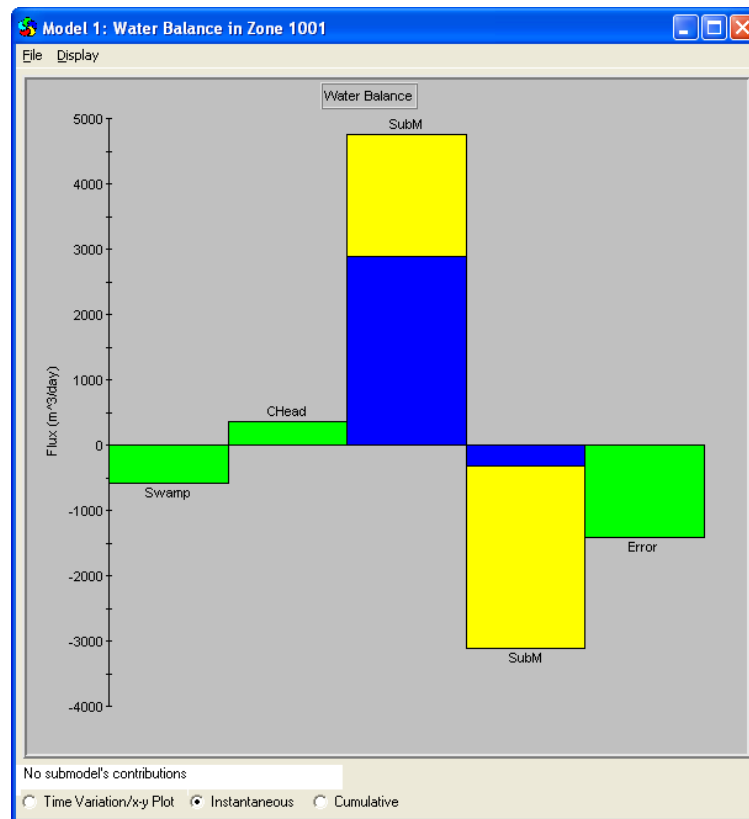

Figure 15-17 Main Model Water Balance
- (1) Select the main model ‘domain polygon’ in the AE and check the Zone Budget box (**Section 7.6.2.4**)
- (2) Discretize and run the model (**Section 15.6**).
- (3) Select Water Balance for the zone in the TPS (**Section 14.2** and **Section 4.1.3**). Zone water balance for the main model will appear in a separate window as shown in **Figure 15-17**.
Also notice that the SubM bar is stacked with different colors. Each color represents a different submodel at the next hierarchical level. Two colors in SubM bar in **Figure 15-17** indicates that there are two submodels at the next hierarchical level.